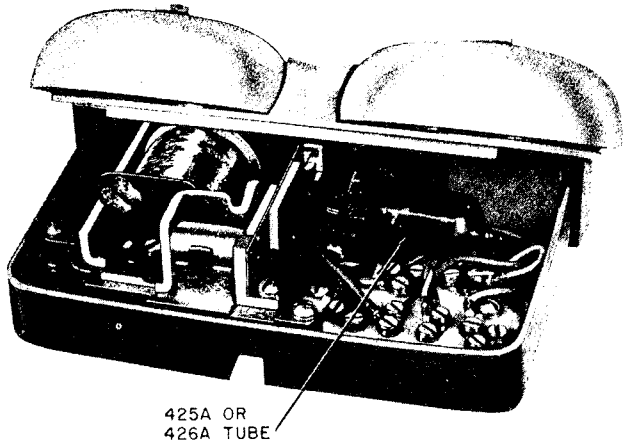

Fig. 3 — L1A Ringer with 425A or 426A Tube
2.02 The ringer has mounting facilities and space provided for the installation of a 425A or 426A electron tube (Fig. 3). The tubes are used for selective multiparty line ringing or when there is evidence of inductive interference (Table A). For the maintenance and mounting instructions of these tubes, refer to the section entitled Electron Tubes.